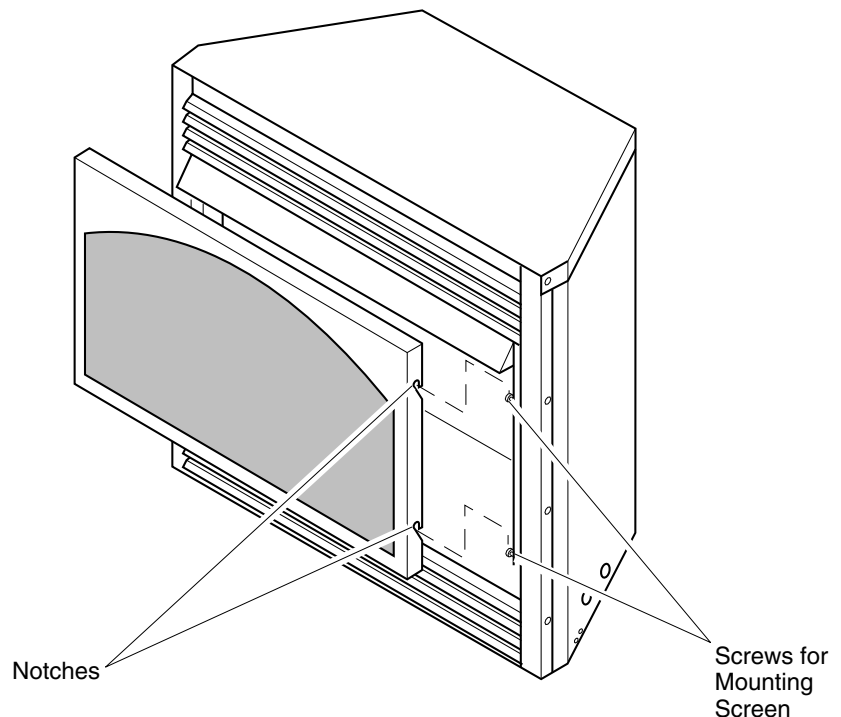

Figure 27 - Installing Fireplace Screen
5. Install fireplace screen by slipping notches of fireplace screen over screws on front of fireplace (see Figure 27).